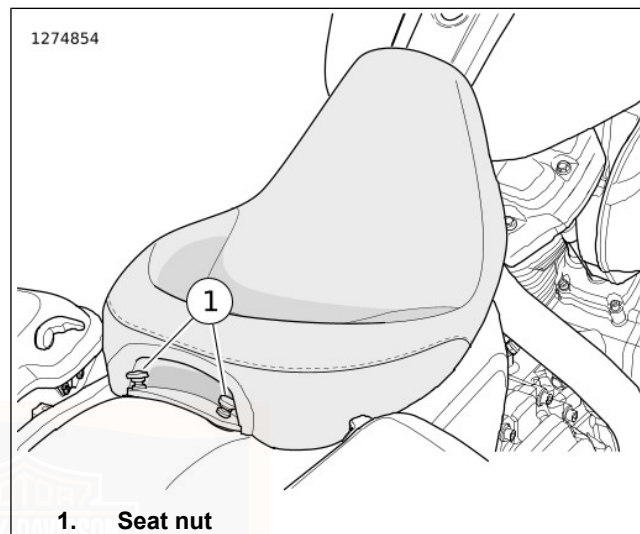
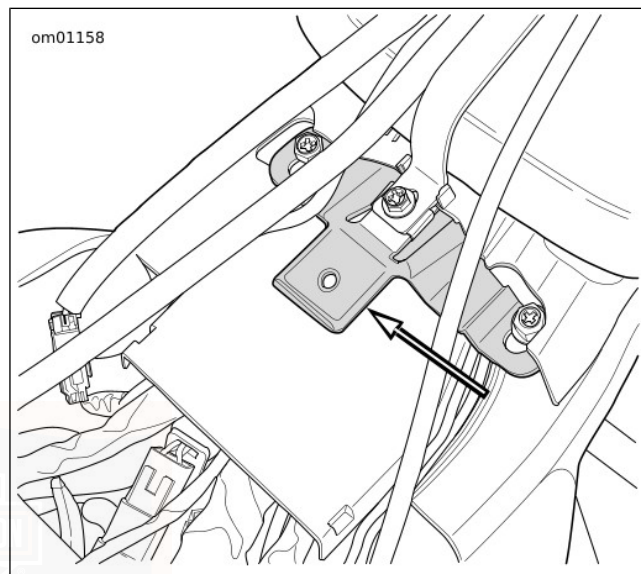
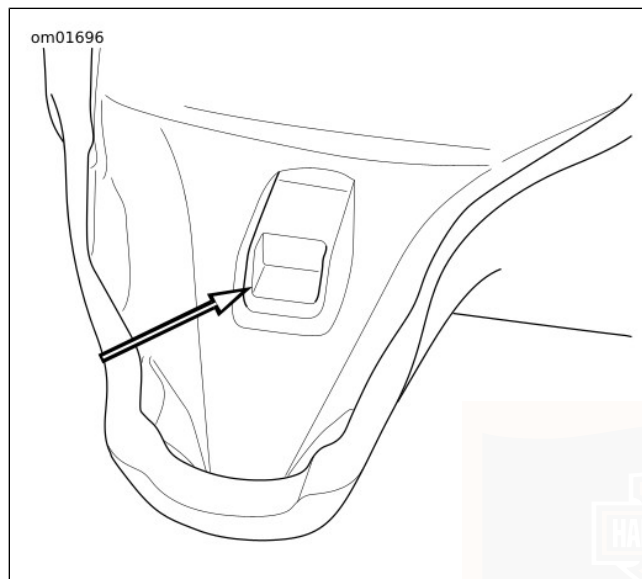

Figure 104. Solo Seat
Figure 106. Seat Tongue
Figure 107. Seat Mounting Slot
1. See Figure 104. Remove seat.
- a. Remove seat nuts (1).
- b. See Figure 106 and Figure 107. Raise rear of seat. Pull seat rearward to disengage the tongue from the slot in the seat.
6. See Figure 106 and Figure 107. Raise rear of seat. Pull seat rearward to disengage the tongue from the slot in the seat.
1. See Figure 104. Install seat.
- a. See Figure 106 and Figure 107. Align seat slot with tongue behind the fuel tank. Push seat forward to engage seat.
- b. Install seat nuts (1).
1. See Figure 106 and Figure 107. Align seat slot with tongue behind the fuel tank. Push seat forward to engage seat.